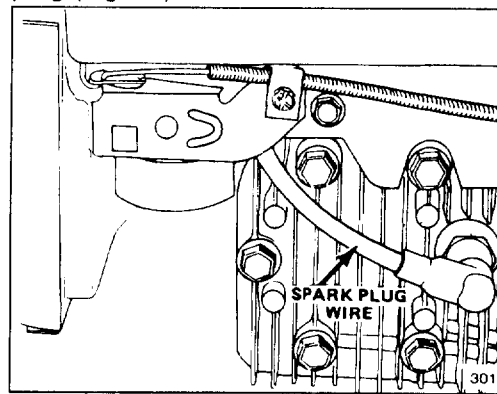

Figure 13
2. Push spark plug wire onto spark plug (Fig. 13). Move wheel drive control to  (self-propelled model only). Move throttle to  (CHOKE). Hold control bar against handle. Pull fingertip starter (Figs. 5 & 6) out until positive engagement results; then pull vigorously to start the engine. Regulate throttle as desired when engine starts.
1. Stop the engine and pull the wire off the spark plug (Fig. 13).
1. Stop engine and pull wire off spark plug (Fig. 13).